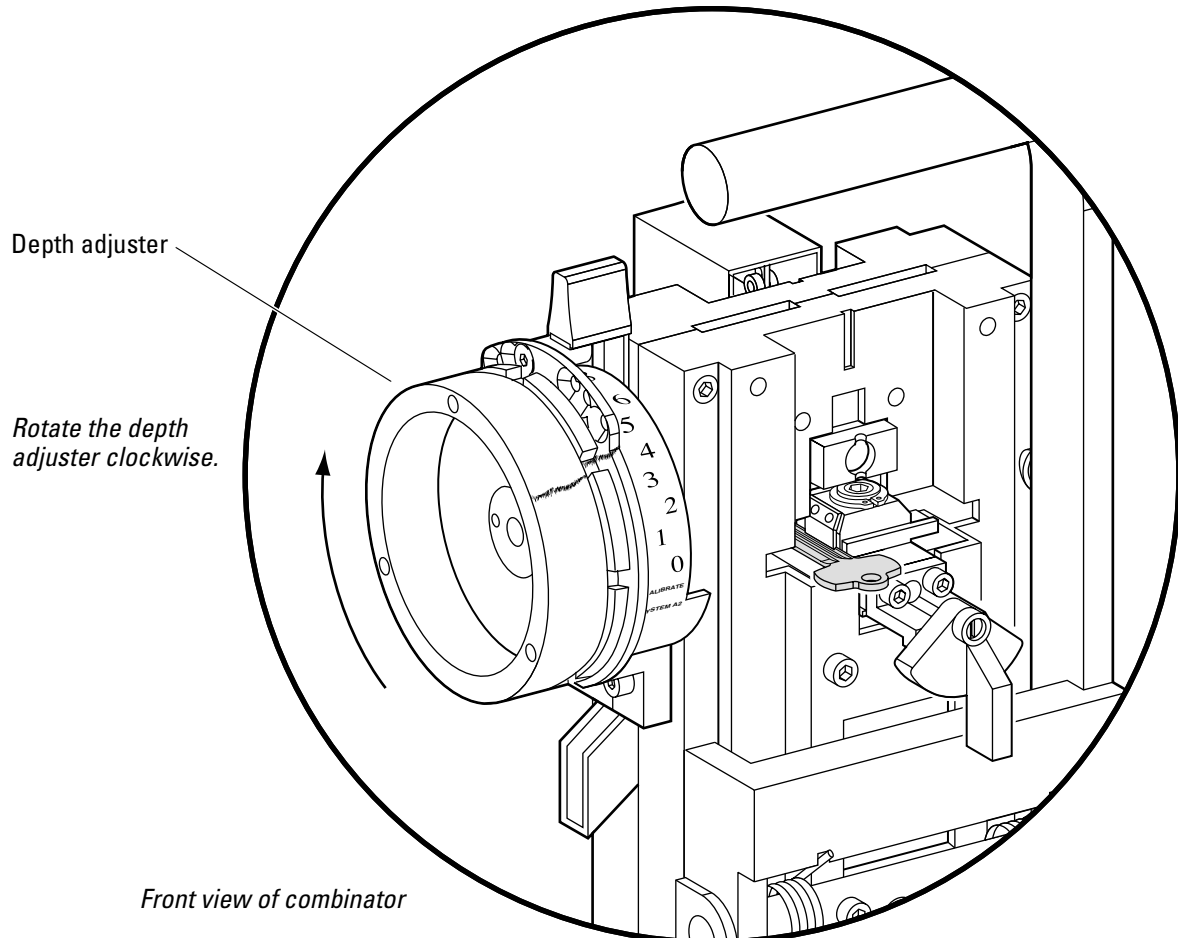

Figure 3.20 Turning the depth adjuster clockwise
3. Rotate the depth adjuster clockwise (turning the depth adjuster 1/4” changes the cut depth by 0.0010”—one thousandth of an inch). Use the lead or grease mark as a reference. See Figure 3.20.